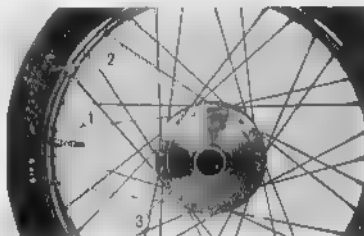

Fig. 4.92 Valve in line
- b. The valve stem must be pointed radially toward the center of the wheel. [Fig. 4.92]